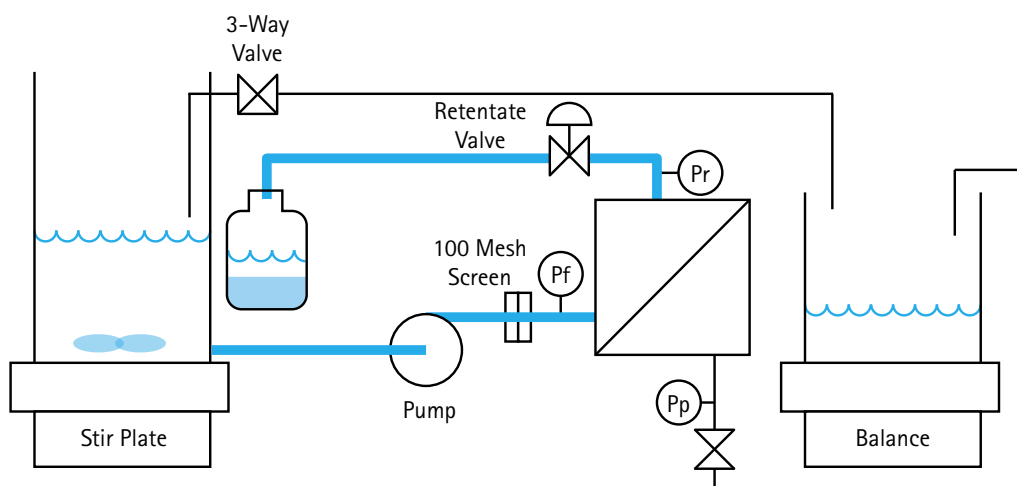

Figure 5.
- 4.3 Set the system flowpath to the recovery mode (Figure 5). Close the permeate isolation valve. Start the pump and collect all of the remaining liquid in the system into the sample container.